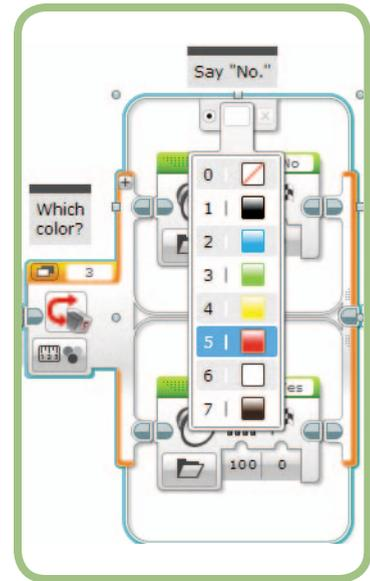

Figure 6-12: Selecting Red for the upper case
1. Click the black box at the top of the Switch block and choose **Red**, as shown in Figure 6-12.